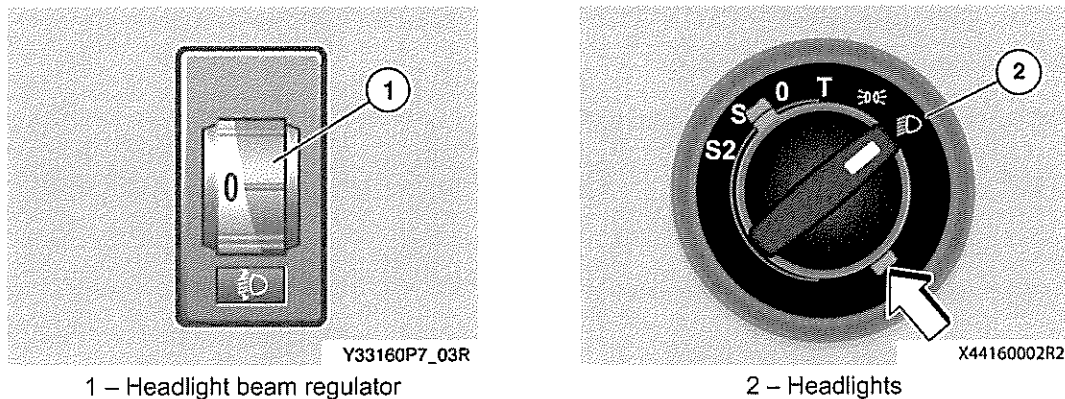

Fig 17 Checking the low-beam headlight setting
- 52 Refer to Fig 17. The headlight beam range can be adjusted by the driver using the dial (1).
- 53 On vehicles that are evenly laden or unladen, set the headlight beam regulator (1) to position 0.